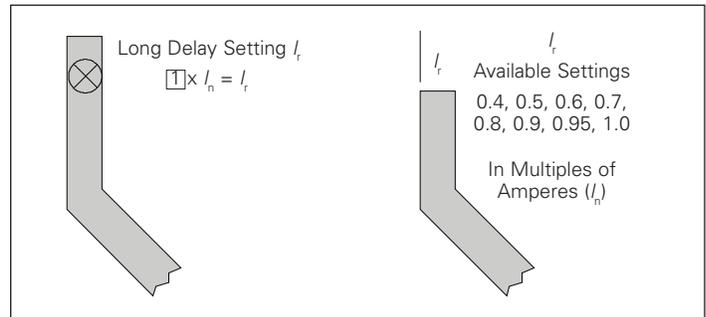
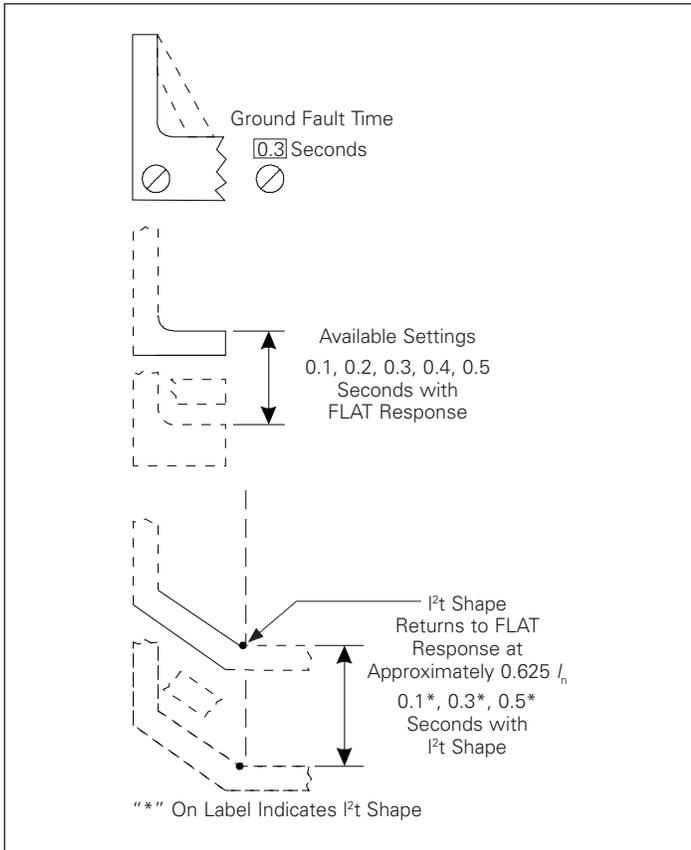

Figure 30. Long Delay Current Settings
Figure 37. Ground Fault Time Delay Settings
The available settings, along with the effects of changing the settings, are given in **Figure 30** through **Figure 37**. Sample settings are represented in boxes [2].
There are eight available long delay settings, as illustrated in **Figure 30**. Each setting, called ( $I_r$ ), is expressed as a multiple (ranging from 0.4–1) of the current ( $I_n$ ). The nominal current pickup value is 110% of the setting.
As illustrated in **Figure 37**, there are two different ground fault curve shapes: fixed time (FLAT) or I2t response. The shape selected depends on the type of selective coordination chosen. The I2t response will provide a longer time delay for current below 0.625 x In than will the FLAT response.
**BEFORE PLUGGING A TEST KIT INTO THE TEST PORT, PLACE THE LTM JUMPER IN THE INACTIVE POSITION (SEE FIGURE 30). AFTER TESTING, RETURN THE LTM JUMPER TO ITS ORIGINAL POSITION.**